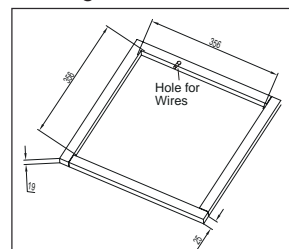

Figure 1
- 3.Examine the roof opening size, if the opening is small than 356x356mm, the opening must be enlarged. If the opening exceeds 356x356mm, a mounting plate (frame) must be fabricated to reduce the opening size (See Figure 1).
If a roof vent opening is not used,a new opening(see figure 1)will be cut into the vehicl roof.A matching opening will also have to be cut into the interior vehicle ceiling,be careful when cutting the ceiling opening because if the ceiling opening is carpeted,snagging could occur. After the opening in the roof and interior ceiling are the correct size,a framed support structure must be placed between the exterior roof top and interior ceiling.The reinforced framed structure must follow the follwing guidelines:
- 2.It must be capable of holding the roof outer surface and interior ceiling apart and supporting them, so that when the roof top air conditioner and ceiling assembly are bolted together,no collapsing occurs. A typical support frame is shown in Figure 1.